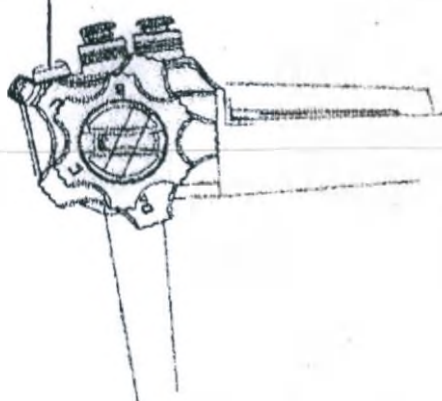
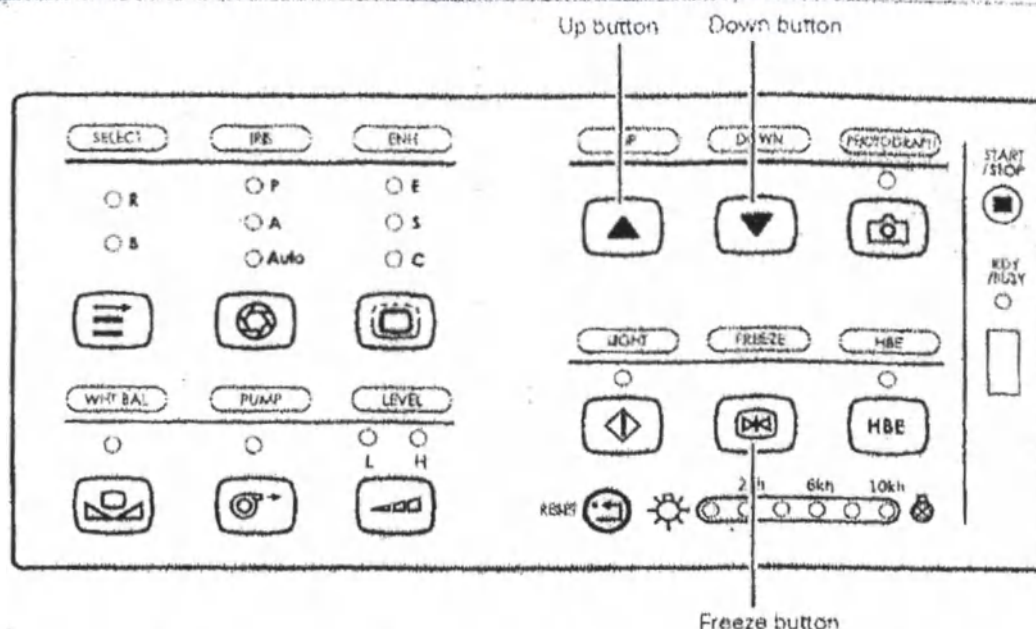

Рис. 16.
Рис. 17.
1. Press the freeze frame button on the endoscope handle (see Fig. 16), the freeze frame button on the front panel (see Figure 17) or the F6 key on the keyboard to make a freeze frame.